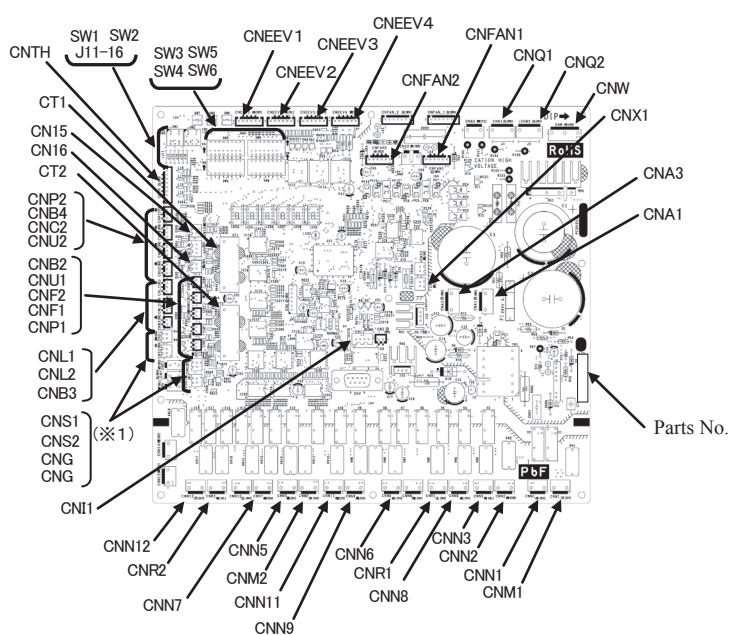

Fig.1 Parts arrangement
**(Be sure to measure voltage (DC) and check that the voltage is discharged sufficiently.** (Refer to Fig.1.))